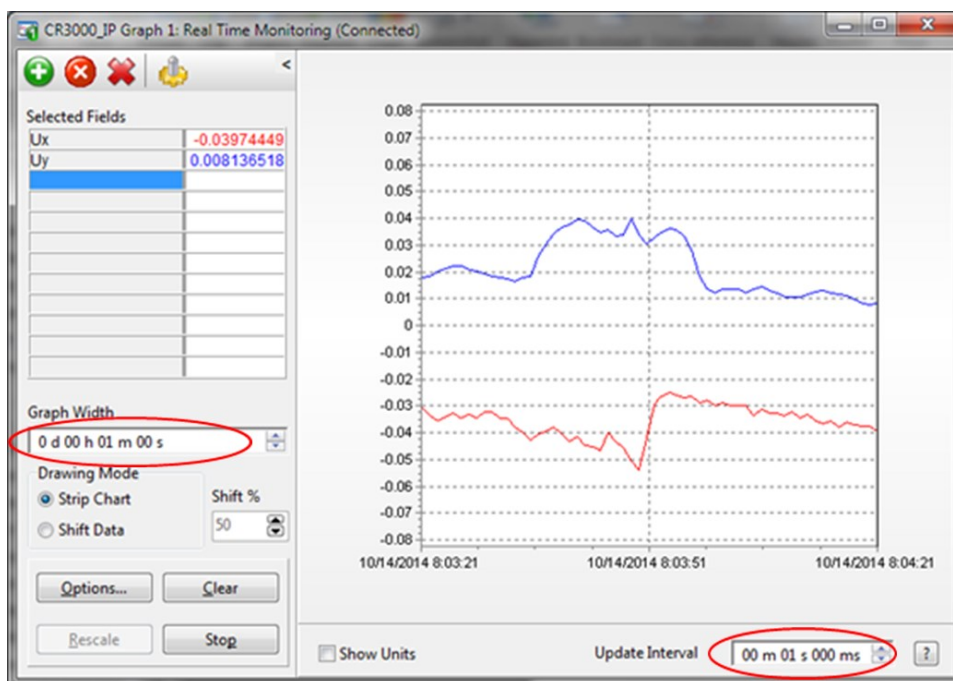

Figure 8-4. CSAT3B real-time data with 1 sec update and  $u_x$  and  $u_y$  wind components graphed
- a. On the first graph, add the  $u_x$  and  $u_y$  wind components and set the y limits from  $-0.08$  to  $0.08$  as shown in Figure 8-4 (p. 69).